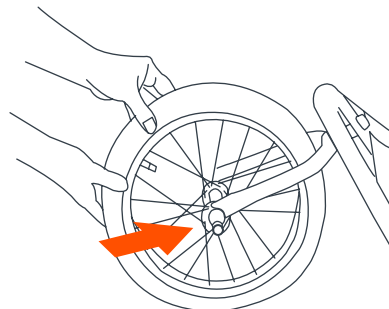

Fig. 2
- 2) • Slide the front wheel onto the front forks (Fig. 2).